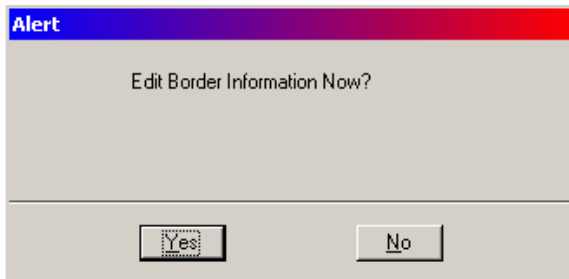

Figure 1-20: PCF Edit Alert
**Information** from the *Main Menu*. Figure 1-20